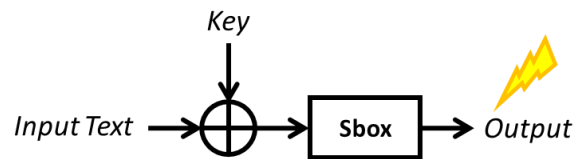

Figure 2 – An example of key dependent leakage from the first round of AES encryption.
Side-channel measurements are collected when a known input or output, such as the encrypted ciphertext, is combined with portions of the cryptographic key. An example of where key-dependent side-channel leakage can occur in an AES engine is shown in Figure 2. The leaked power signal is dependent on the key since the data value leaked after the Sbox will change based on the exclusive-or (XOR) between the *known text input* and the *fixed unknown key*. Different input and key combinations result in different number of bits set to one (higher power consumption) or bits set to zero (lower power consumption).
An attacker recovers each byte of the AES key separately in a divide-and-conquer attack until the entire key is recovered. For example, SCA can exploit algorithms that were architected to operate on 8-bit microcontrollers, and hence perform operations on subsets of the 128-bit key. AES includes operations that use 8 bits of the key at a time, such as the Sbox operation shown in Figure 2, that allow the attacker to estimate the power consumption for a single byte of the key (2^8 or 256 possible key values). Without isolating subsets of the key, the attacker would have to contend with all 2^{128} possible key values for AES-128, which is not computationally feasible.